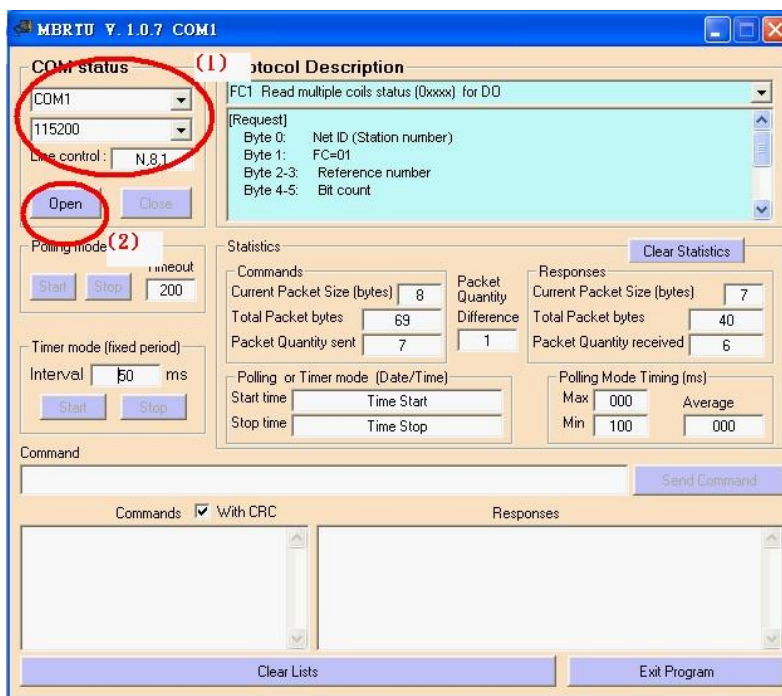

Figure 44 MBRTU Utility
-- Start the test utility “MBRTU” (figure 44) on the PC.